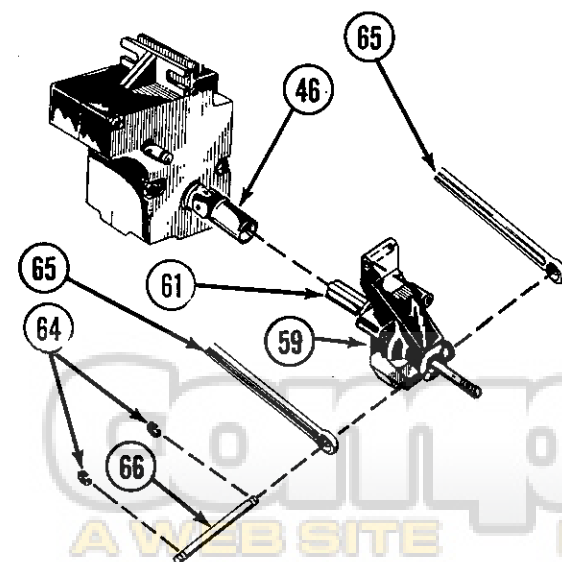

FIG. 28
24. Place one 1/8" E-clip (64) in one groove in 1/8" x 1.420 hinge pin (66). Fig. 28.
25. Slide 1/8" x 1.420 hinge pin (66) through free end of suspension link (65). Fig. 28.
26. Secure pin by placing 1/8" E-clip (64) in groove in hinge pin (66). Fig. 28.
27. Hold chassis (2) level and let hub carrier assembly dangle. Align the splines in the drive shaft halves (46)(61) and insert male half (61) into female half (46). Swing hub carrier assembly back up to level with chassis (2) and check for freedom of travel. Fig. 28.